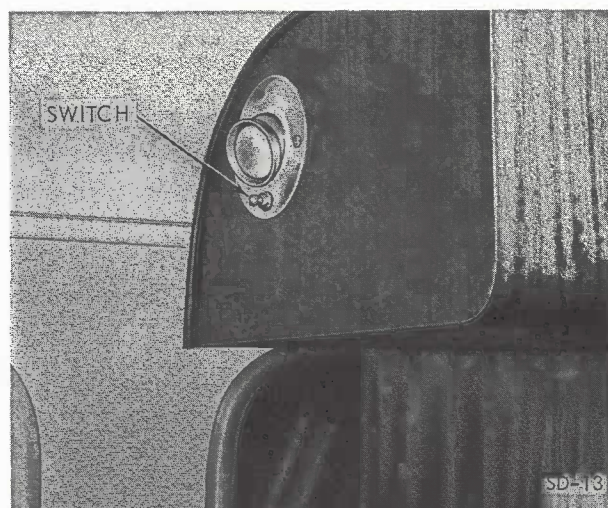

Figure 4-10. Map Light
v. Map Lights (fig. 4-10). Overhead map lights, one above driver's seat on left ceiling and one above passenger seat on right ceiling, illuminate area for reading. Each light has its own switch to suit individual requirements.